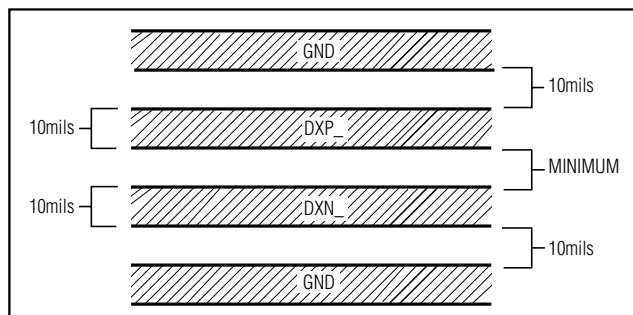

Figure 2. Recommended DXP_/DXN_ PC Traces
- 4) Connect guard traces to GND on either side of the DXP_ to DXN_ traces (Figure 2). With guard traces in place, routing near high-voltage traces is no longer an issue.
- 7) Use wide traces. Narrow ones are more inductive and tend to pick up radiated noise. The 10mil widths and spacings recommended in Figure 2 are not absolutely necessary (as they offer only a minor improvement in leakage and noise), but try to use them where practical.